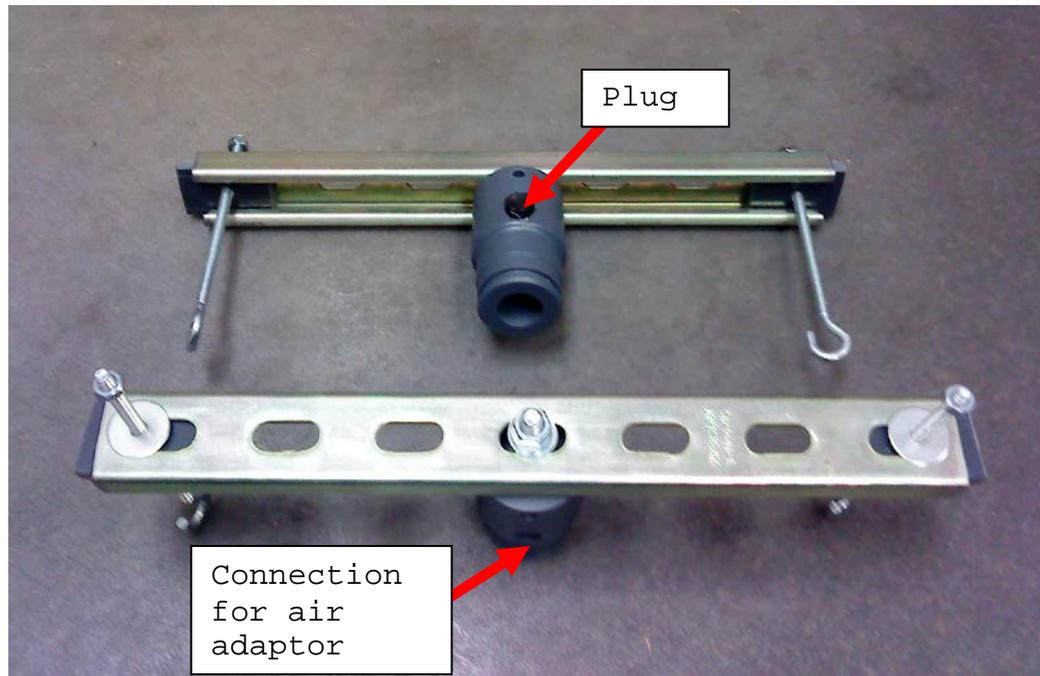

Figure 1: Assembly Kit of Hydraulics Bubble Test Apparatus
3. Insert bubble test plug apparatus into both ends (see Figure 1). Ensure o-rings are intact before inserting adapters to ensure proper seal.